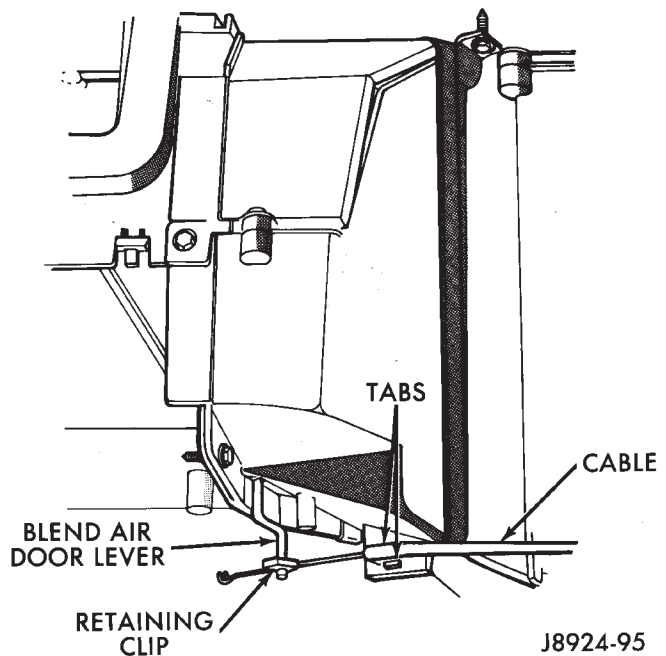

Fig. 17 Heater Control
- (1) Remove the heater control panel.
- (2) Remove the clip and the cable self-adjusting clip from the blend air door lever at the bottom of the evaporator/blower housing (Fig. 17). Then remove the cable by squeezing the tabs with needle nose pliers being careful not to break the housing.